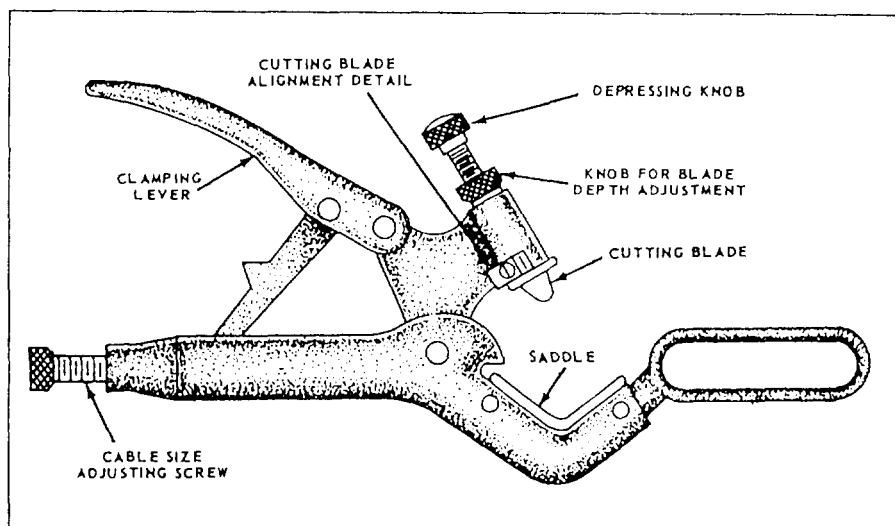

Figure 2-52.-Cable stripper.
**STRIPPING CABLE.**— The cable armor maybe removed by using a cable stripper of the type shown in figure 2-52. Care must be taken not to cut or puncture the cable sheath where the sheath will contact the rubber grommet of the nylon stuffing tube.